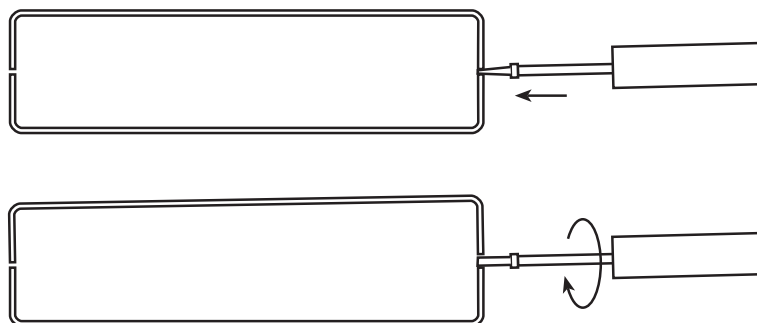

Figure 8. Case being opened with a screwdriver
1. Open the IPLink's case by inserting a screwdriver into the slots and twist the screwdriver head slightly. The top half of the case will separate from the lower half of the case (see figure 8). Take caution not to damage any of the PC board mounted components.